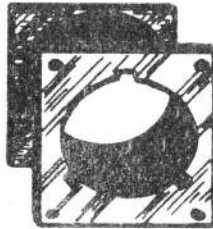

Fig. 8 Indentations filed into front end plate of focus coil using a small round file.
- () 19. In order that the three lens mounting nuts do not prevent the focus coil from mounting flush to the cabinet it is necessary to file small indentations in the front end plate of the focus coil to correspond with the positions of these nuts. This can be done with a small round file. See fig. 8 below. Do not modify or omit this step. The result would be a poorly mounted focus coil which would not be light tight against the inside of the cabinet, thereby causing possible "fogging" of the televised picture from stray light falling on the vidicon target. Also it would alter the correct lens-to-vidicon distance.